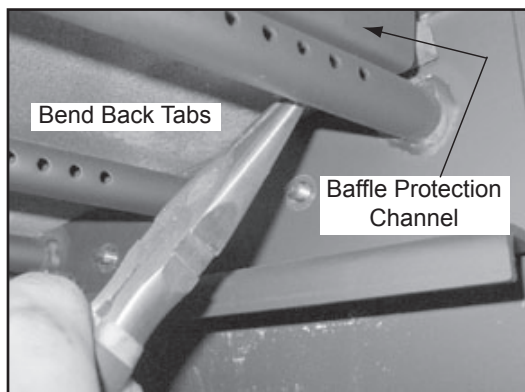

Figure 25.2
3. Locate the 2 channel nuts and two bolts inside of chamber and remove using a 7/16 socket wrench (**Figure 25.2**).